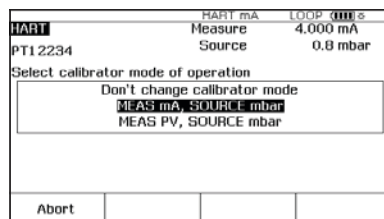

Figure 6.
2. Press the **HART** key again and you are prompted to select the 754 configuration (Figure 6). Selecting **MEAS mA, SOURCE mbar** will configure the calibrator to measure the analog mA output and the pressure being applied simultaneously to the transmitter input and the pressure module. (Selecting **MEAS PV, SOURCE mbar** will configure the 754 to evaluate the digital PV output from the transmitter.) Press **ENTER** to select.